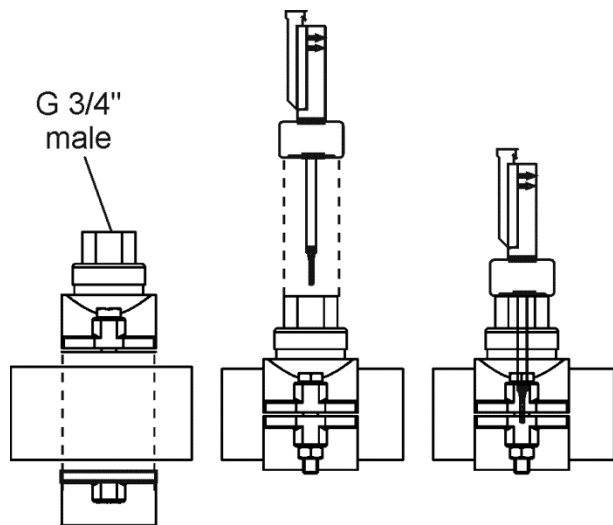

Fig. 7a
1. Vertically install the FS-1 flow detector (flow switch) supplied with the unit using a ¾" male threaded saddle (Fig. 7a).